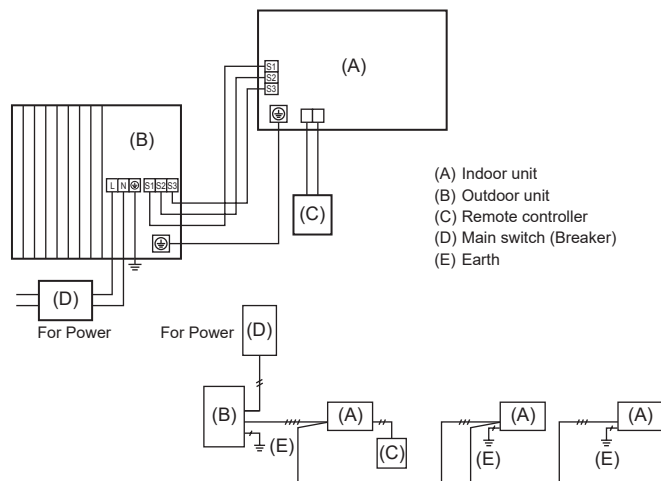
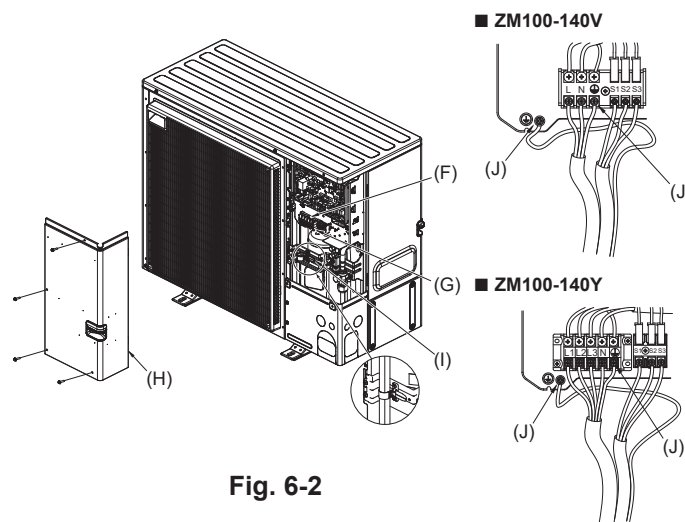

Fig. 6-1
Fig. 6-2
6.1. Outdoor unit (Fig. 6-1, Fig. 6-2)
(1) Remove the service panel.
(2) Wire the cables referring to the Fig. 6-1 and the Fig. 6-2.